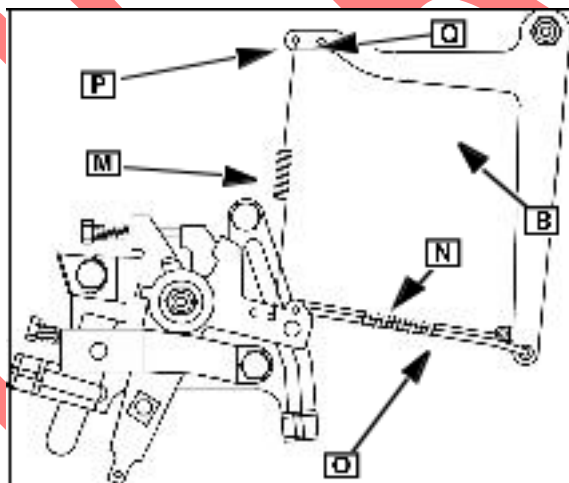
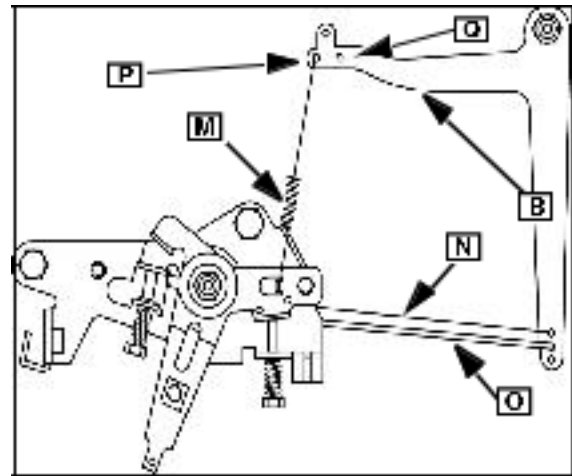

Fig. 20
Fig. 21
NOTE: The following two illustrations (Fig. 20 & Fig. 21) show the general procedure for assembling governor linkages. Details vary with the type of equipment being powered.
Hook governor spring (M), link (O) and link spring (N) into lever ([B] Fig.20 or Fig.21).
NOTE: 60 Hz generators use the outer hole ([P] Fig. 21), while 50 Hz generators use the inner hole (Q) on the governor lever (B). Generator governor spring part numbers are listed in the Illustrated Parts List.